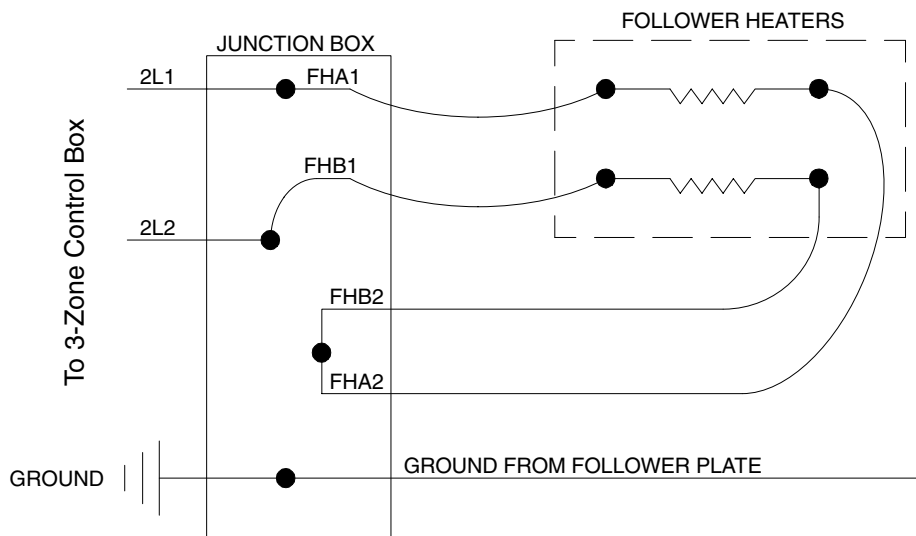

Fig. 10
3. Disconnect the follower-plate wires from the junction box (Fig. 10, 11 or 12).
6. Remove the 6 screws (170) and washers (160) from the follower adapter.